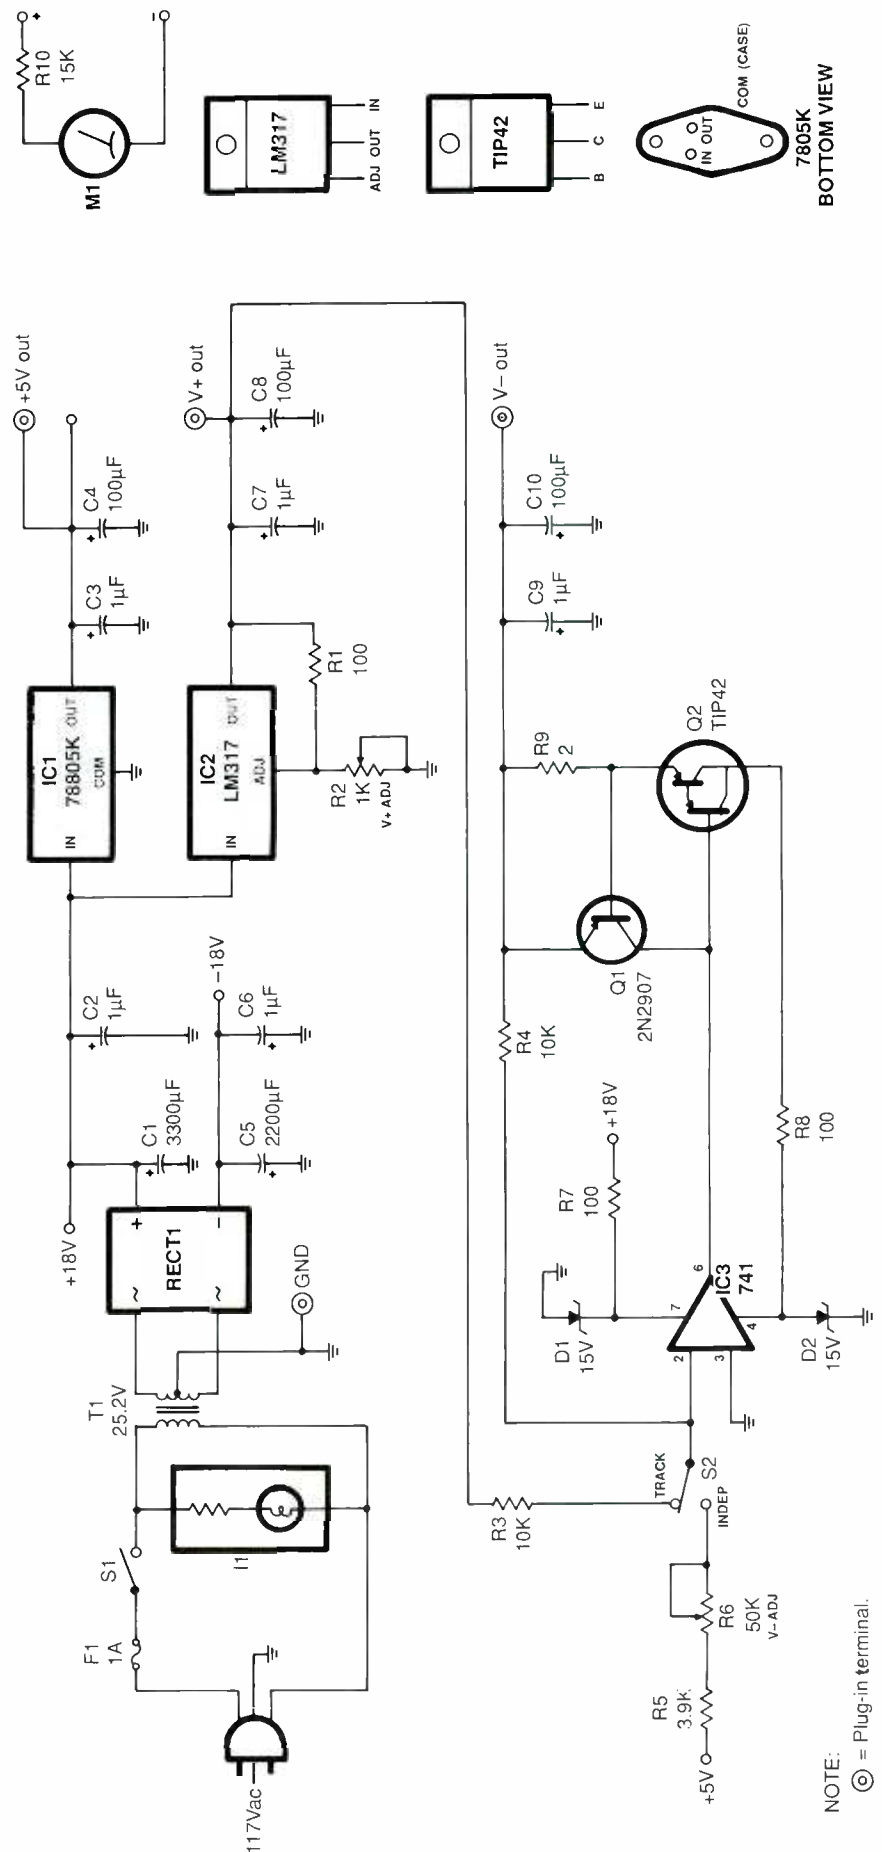

Fig. 1. Schematic diagram of Prototyping Kit's +5-volt and variable positive and negative power supplies.
- **Power Supplies.** Shown in Fig. 1 is the circuitry for the power supply. This and the other schematic diagrams in this article use a special "circle-within-a-circle" symbol to indicate where a jumper terminal is wired on the project. In Fig. 1, these are located at +5V(out), V+(out), V-(out), GND and meter M1.
In use, the $V+(IN)$ and $V-(IN)$ terminals of the logic probe connect across the power supply of the circuit under test. The $V+(IN)$ terminal may connect to $V+(OUT)$ in Fig. 1 (if set to 3 volts or greater), or to +5V(OUT), with $V-(IN)$ connecting to GND. Or $V+(IN)$ and $V-(IN)$ can connect across another supply from 3 to 15 volts. The input under test connects to PROBE(in).
Power for *LED1*, *LED2* and *LED3* is provided by the + output of *RECT1* in Fig. 1. This gives the LEDs a relatively constant brightness no matter what supply voltage is at *V+(IN)* on the probe. Resistors *R14*, *R16* and *R17* are current-limiting resistors for the LEDs.